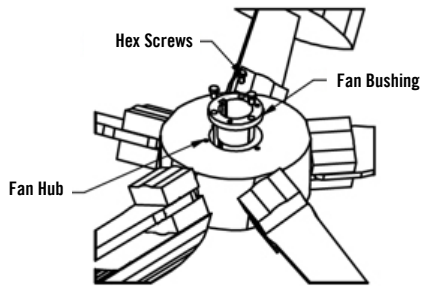

Figure 31. Fan Bushing Installation
5. Install the fan bushing by first aligning the threaded holes on the hub with captured hex screws on the fan bushing. Insert the bushing into the hub. Sequentially tighten the hex screws until the bushing is almost fully engaged in the hub (**Figure 31**). Leave slight play between the bushing and the hub to facilitate installation on the fan shaft.